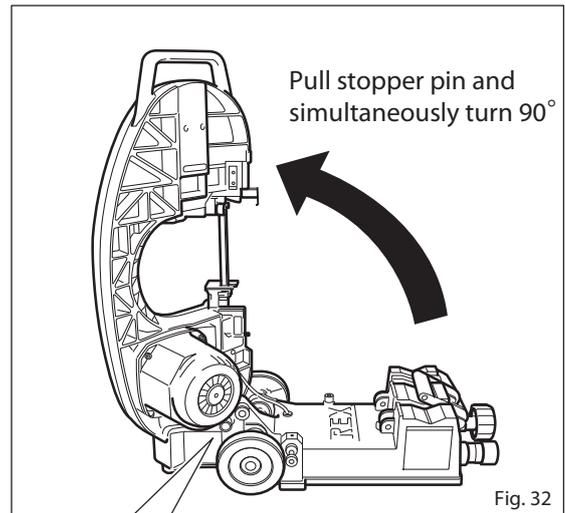
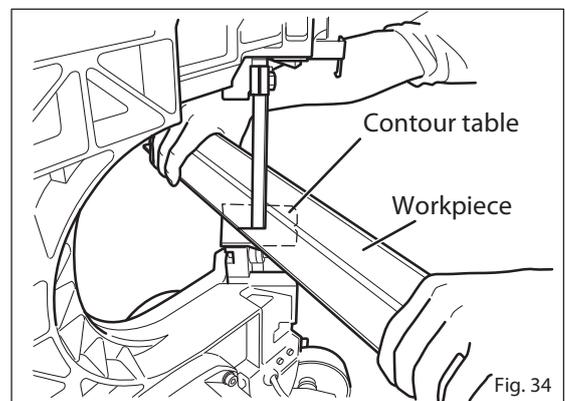

Fig. 32
Fig. 34
## 1. Contour Cutting (Figs. 32 - 34)
- (1) Pull the stopper pin ring to the left of the motor, while simultaneously grasping the handle and lifting the frame so it is vertical. (Figs. 32 & 33)
- (2) Set the ON/OFF switch to the "ON" position. The blade will start rotating.
- (3) Place the workpiece on a contour table and cut it slowly. (Fig. 34)